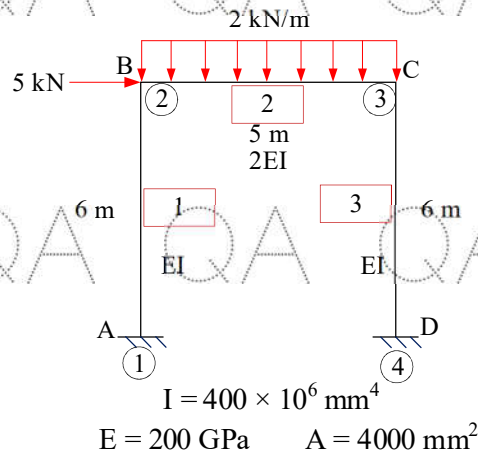

Figure 7
9. Determine the reactions and the member end forces in local coordinates for the frames shown in figure 7 by using the matrix stiffness method. Draw BMD. [10]